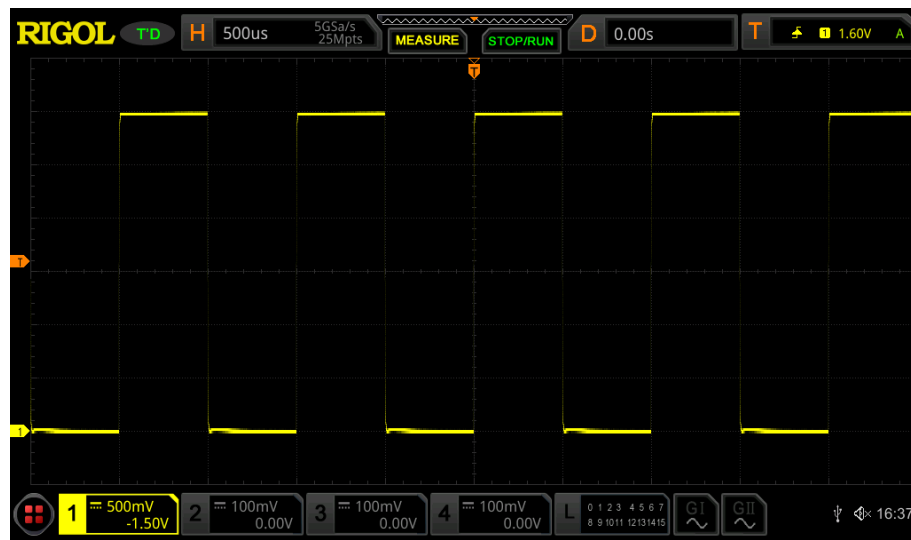

Figure 7.8 Square Waveform Signal
5. Observe the waveform on the display. In normal condition, the square waveform as shown in *Figure 7.8* should be displayed.